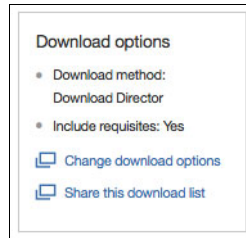

Figure 13-47 Select Change download options to your preferred method
6. To change download options, use the panel shown in Figure 13-47. This panel is available on the Download page.